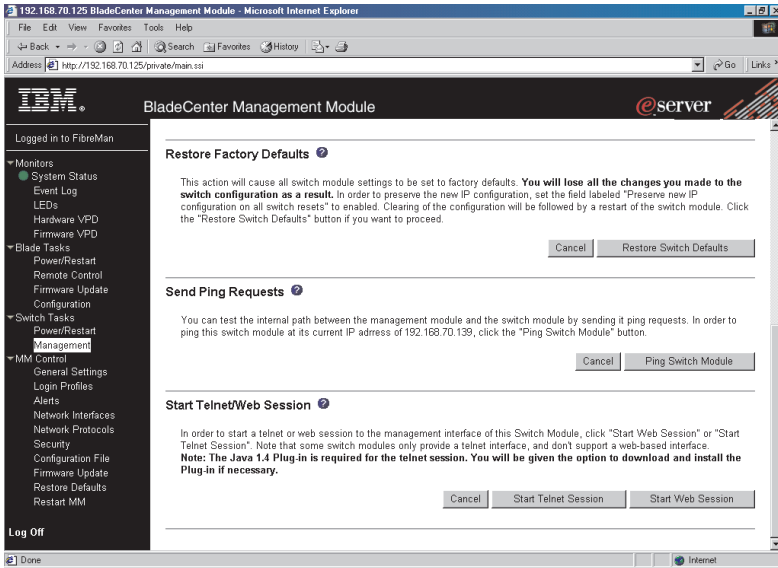

Figure 15. Switch Management window - advanced
7. Scroll down and click **Advanced Switch Management**. A window similar to the one in Figure 15 opens.